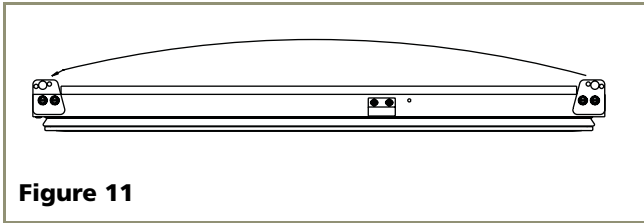

Figure 11
- If door has not been removed from cardboard packaging, carefully cut tape and remove from cardboard first. With bottom of door facing up, remove pivot plate (2 screws), flip over, and remount on opposite side of door (see **Figure 11**). Be sure angled side of plate faces center.